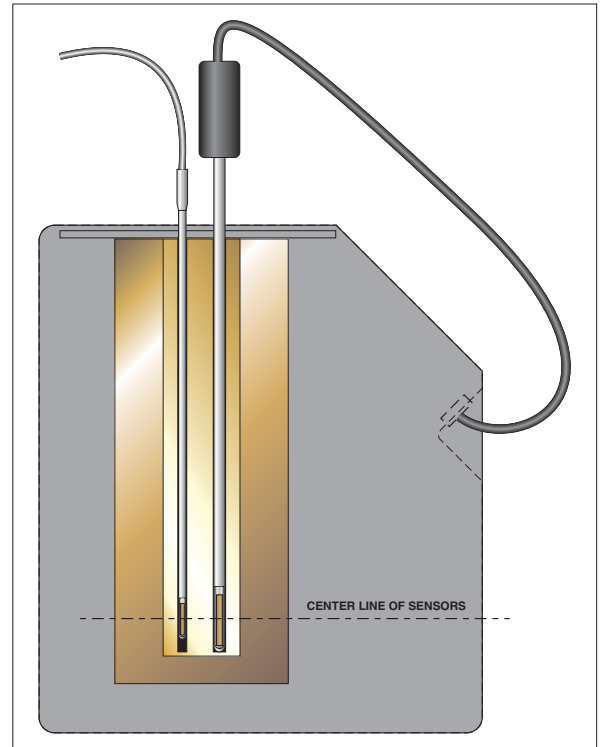

Figure 4. Aligning the centers of the sensing element of the reference probe and the UUT
**Application Tip:** Axial uniformity errors can often be improved beyond the specification by aligning the centers of the sensing element of the reference probe and the UUT (see Figure 4).
the control sensor (which is fixed in the block) to the UUTs (see Figures 4 and 5).